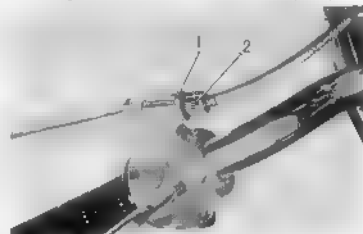

Fig. 4.8 Removing brake and clutch cables
① Stem nut socket wrench ② Stem nut
③ Front fork bolt ④ Fork top bridge plate
7. In order to remove the clutch and brake cables from the handle lever, loosen the cable adjusting bolts (2), align the lock nut (1) to the groove and separate from the handle lever. Remove the cable and from the lever. (Fig. 4.8)